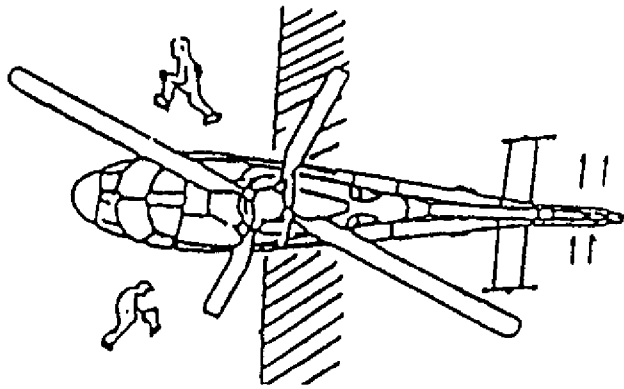

Fig. 3 Direction of access to and moving away from the helicopter
- 1) You must ride in or get off the helicopter at a position within the sight of the pilot (from the side of the door to the front of helicopter) (Fig. 3)